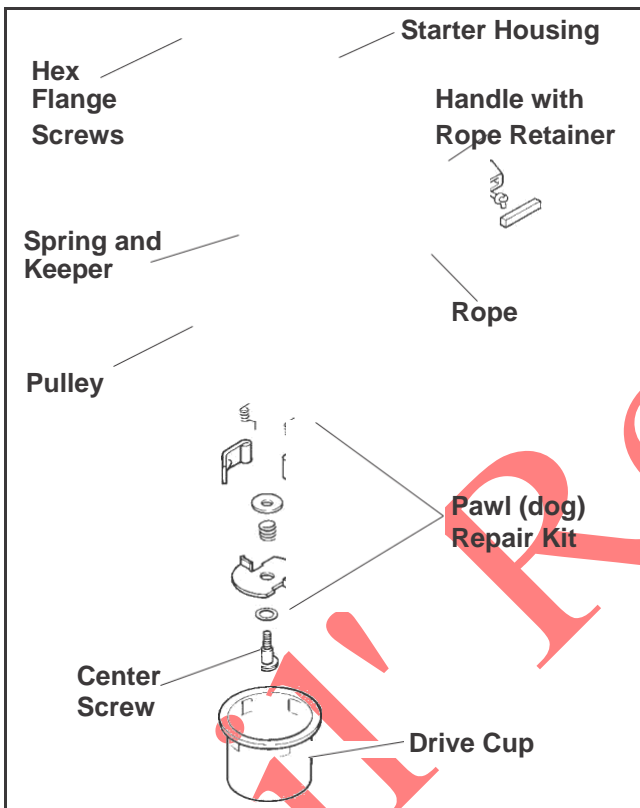

Figure 7-1. Retractable Starter - Exploded View.
2. Replace all worn or damaged components. Use only genuine Kohler replacement parts as specified in the Parts Manual. All components shown in Figure 7-1, are available as service parts. Do not use nonstandard parts.